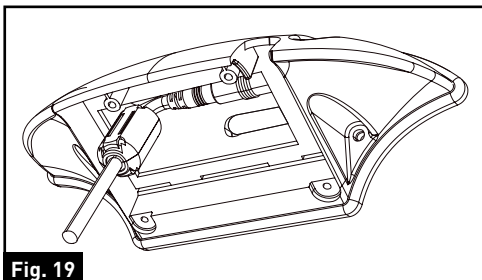

Fig. 19
11. Place the camera cable filter in the left of the bracket housing. (Fig. 19)